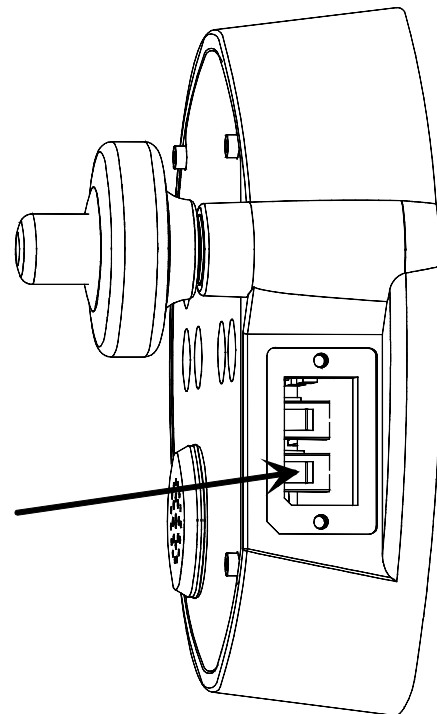

Figure 9-1
- ⇒ Measure the resistance between the ground (-) terminal (as shown on Figure 9-1) of the electronic circuit and the tube of the sensing probe; the resistance should be less than 10 Ω . If it is higher, the steel tape might be broken or the connection between the sensing probe circuit and the sensing probe tube might be interrupted.